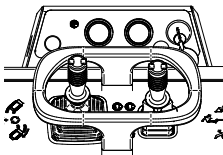

Figure 3-11 Ignition Switch
2. Rotate the ignition key switch to the HEAT position (Item 1, Figure 3-11) for about 10 seconds.
4. Rotate and hold the starter switch in the START (Item 4, Figure 3-11) position until the engine starts.
5. As soon as the engine starts, release the starter key. The key will automatically return to the RUN position (Item 3, Figure 3-11).